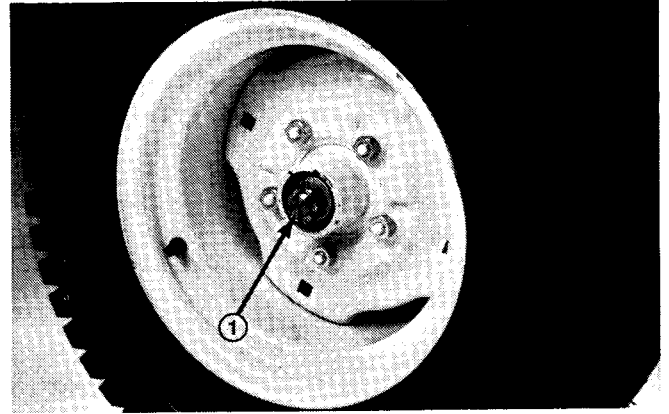

Figure 15
2. Remove dust cap from end of wheel spindle. Remove cotter pin retaining slotted nut in place (Fig. 15).